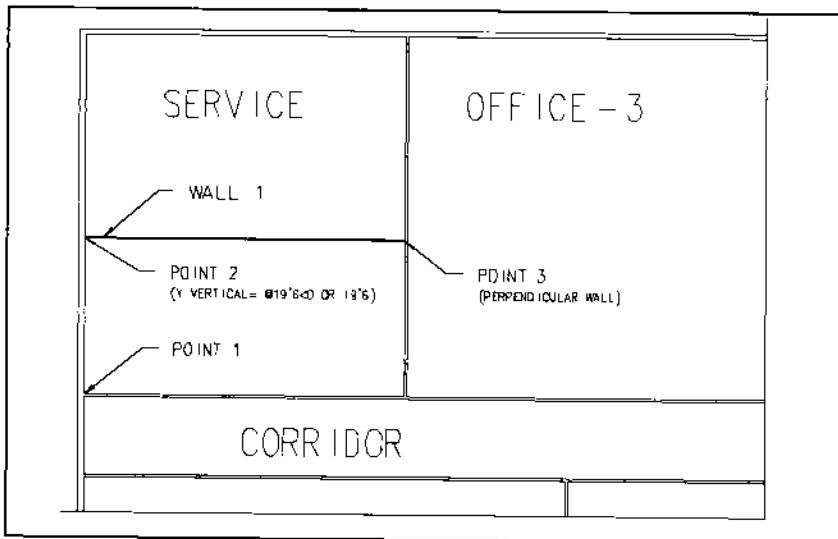

Figure 17.
6. Begin at the lower left interior corner of the Service area as shown in Figure 17.
11. Press Return to complete the command for a double wall line of 4" thick with a centerline on layer ARWALLCEN as shown previously in Figure 17.
- > Pick base point <last>: INT of [point 1 as shown in Figure 17]
- > Next point or Autopt/Bearing/Close/Dialog/Fillet/Parallel/ Relative/Undo: PER to [select wall between SERVICE and OFFICE-3 referenced in Figure 17 as point 3]